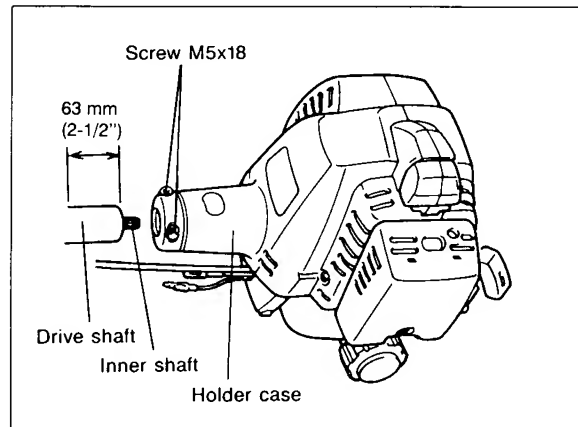

Fig. 1
1. Loosen the screws M5x18 and insert the drive shaft into the holder case. (Fig. 1)
2. Loosen the screws M5x18 and insert the drive shaft into the holder case. (Fig. 1)